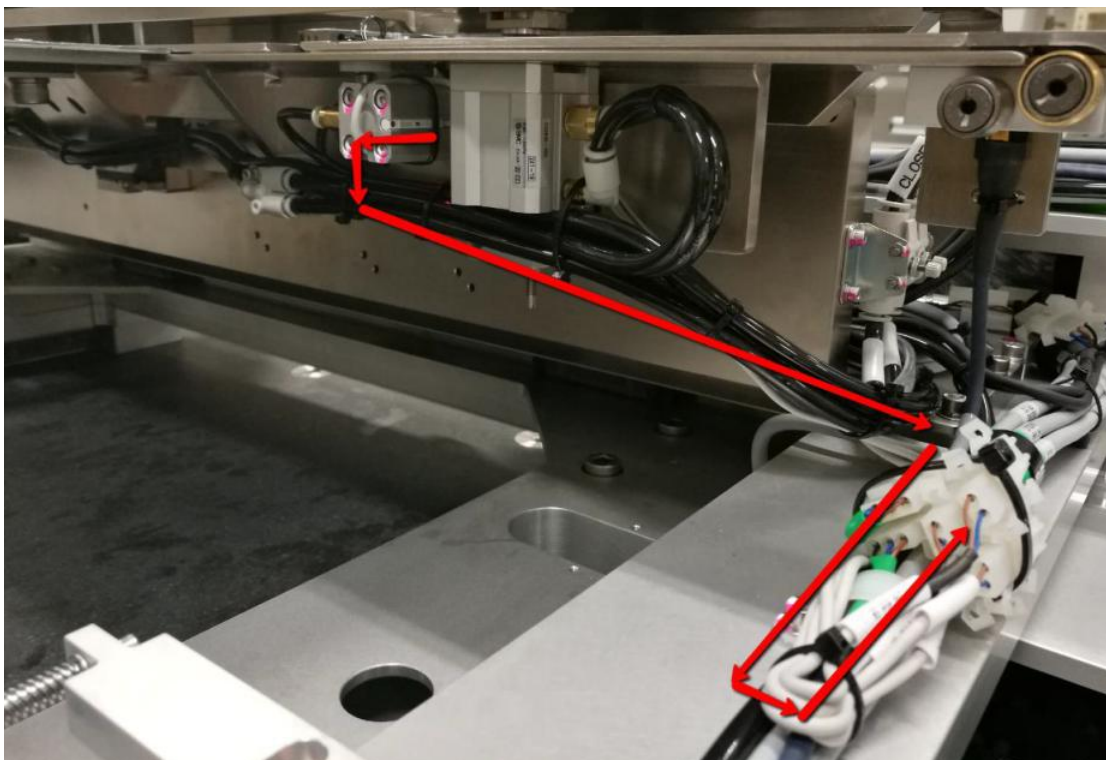

Figure 40 Right PIP Out Reed Sensor Removal
7. Remove defective Right PIP Out Reed Sensor by following direction as shown in Figure 40 below.